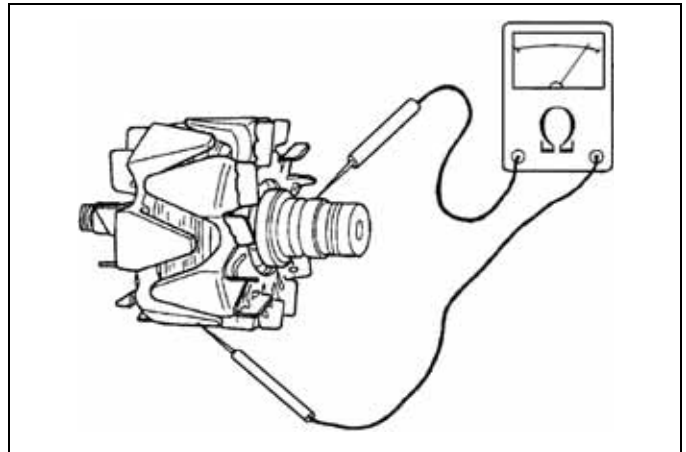

Fig. 5-17
- c. Check for continuity between the slip ring and shaft (or core), page 5-7, Fig. 5-17. If there is continuity, the coil or slip ring is grounded. Replace the rotor assembly.